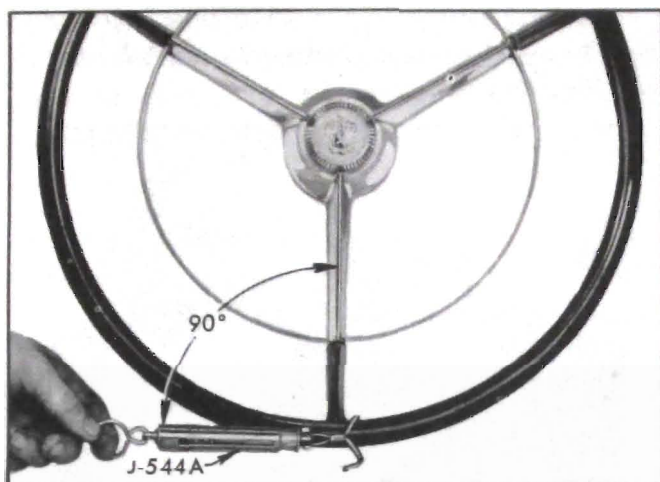

Figure 8-4—Checking Thrust Bearing or Lash Adjustment with Scale
7. After locking the bearing adjuster check the load on thrust bearings with steering wheel turned to near one extreme position. Apply Scale J 544-A to a spoke at rim of wheel and exert a steady pull while keeping the scale at 90 degrees to spoke as shown in figure 8-4. The pull required to keep wheel turning slowly should be between  $\frac{7}{8}$  and  $1\frac{1}{8}$  pounds. Readjust to obtain this bearing load if necessary.